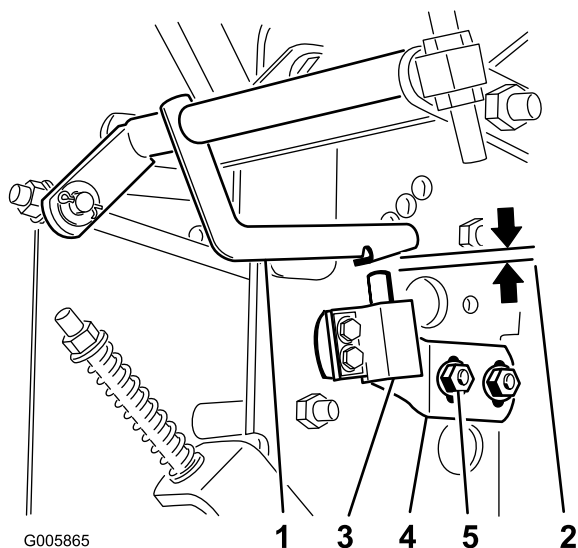

Figure 46
12. With the speed control lever in the neutral position, check to make sure the safety switch is depressed and there is an 1/8 to 1/4 inch (3 to 6 mm) space between the actuating tab and the safety switch (Figure 46)..
13. To adjust the switch location, loosen the two neutral bracket bolts holding the switch plate to the frame (Figure 46).
14. Adjust the switch up or down to obtain an 1/8 to 1/4 inch (3 to 6 mm) space (Figure 46).
15. Tighten the two neutral bracket screws holding the switch plate (Figure 46).